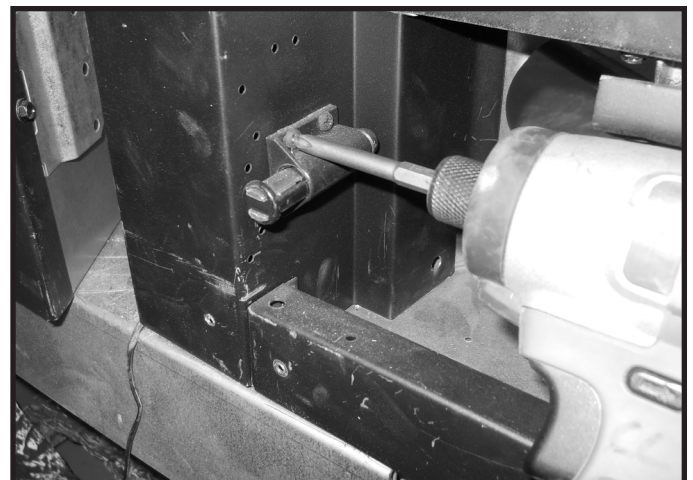

Figure 1. Remove Screws from Magnetic Latches
1. Locate the magnetic latches in the bottom corners of the appliance. Using a #2 Phillips bit, remove the two screws retaining both latches. See Figure 1.